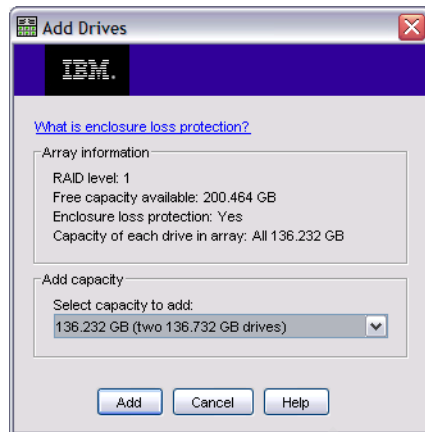

Figure 11-44 Modify - FlashCopy - Add Drives
4. If there is not enough free capacity left, you can expand it here by adding new drives. To do this, click **Add Drives** to open the “Add Drives” window (Figure 11-44). Select from the drop-down menu how many drives you want to add and click **Add**.